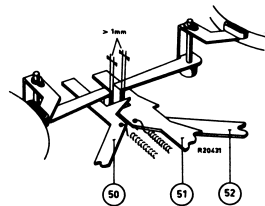

Fig 20
- The distance between the vertical lips of the brake brackets and the reel strips 51 and 52 and the start strip 50 should now be about 1 mm (see fig. 20).